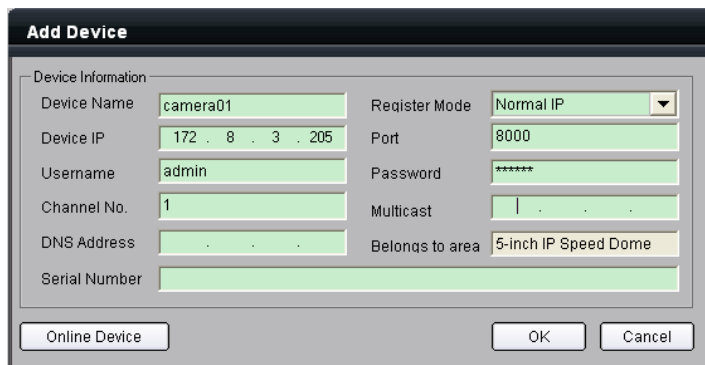

Figure 4.2.7 Add Device Information
The Add Device dialog box will pop up, as shown in Figure 4.2.7. Input the device name, register mode (Normal IP), device IP (e.g., 172.8.3.205), user name (admin), password (12345), port (8000) and channel No. (1) in the text boxes and click *OK* to save the device information.